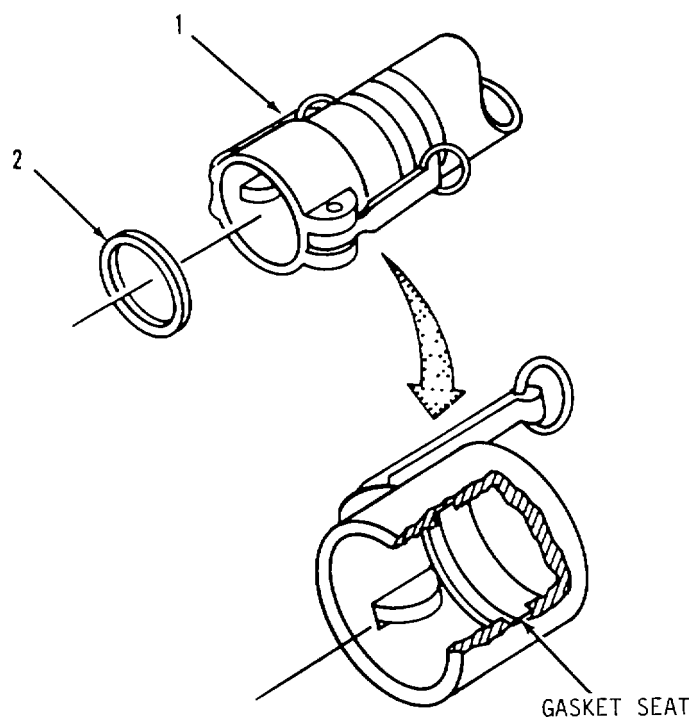

Figure 3-2. Quick Disconnect Repair.
a. Removal. Refer to figure 3-2.
- (1) Disconnect female coupling (1) from water system (para 2-10c).
- (2) Pull gasket (2) from interior of female coupling (1).
b. Installation. Refer to figure 3-2.
- (1) Using clean wiping rag, remove grit, sand, and dirt from gasket seat inside female coupling (1).
- (2) Position replacement gasket (2) in female coupling (1).
- (3) Press gasket (2) into gasket seat inside female coupling (1). There will be no ripples or bumps in gasket material when gasket is properly installed.
- (4) Connect coupling (1) to water system (para 2-10c).
- (5) Start up water system (para 2-12c) and test coupling (1) for leaks.